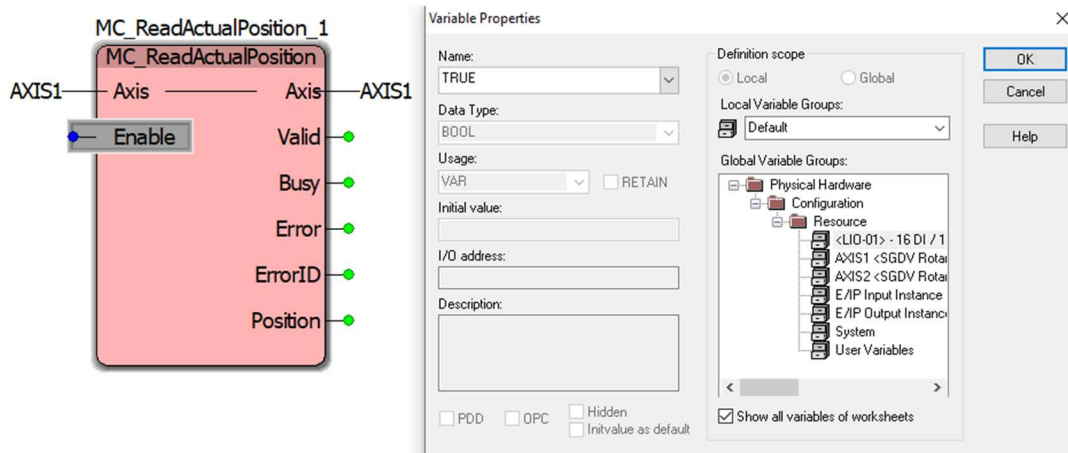

Figure 20: MC_ReadActualPosition Enable Properties
- On the Enable Input Variable, make the name 'TRUE' as seen in Figure 20 to read the position at all times.